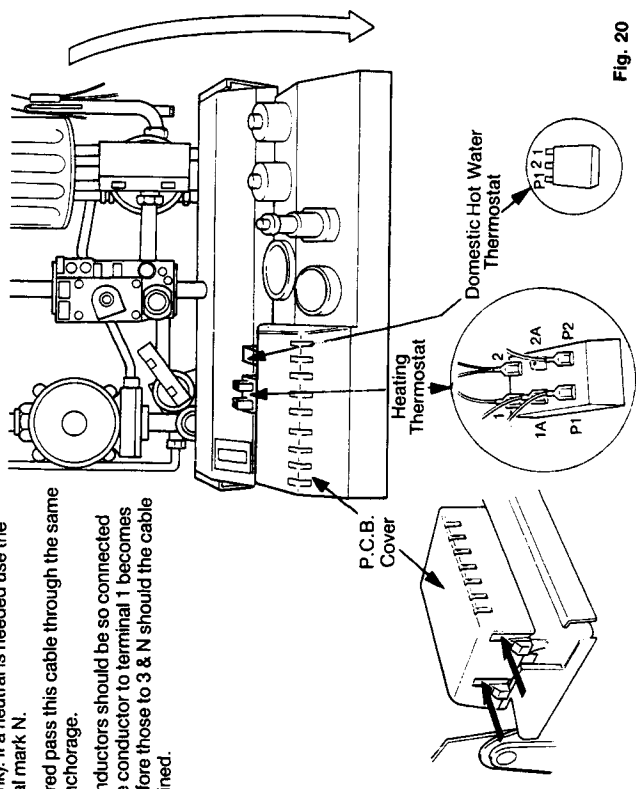

Fig. 20
Press in the sides of the printed circuit board cover (fig. 20) to release retaining clips, and lift cover off.
**6.7.6** If the boiler temperature is above 60°C turn the dhw thermostat down until the low flame is established. If low flame cannot be established in this way, turn off the electricity supply and transfer the cable on terminal 2 of the dhw thermostat to terminal 1 (Fig. 20 shows location). Switch on electricity.